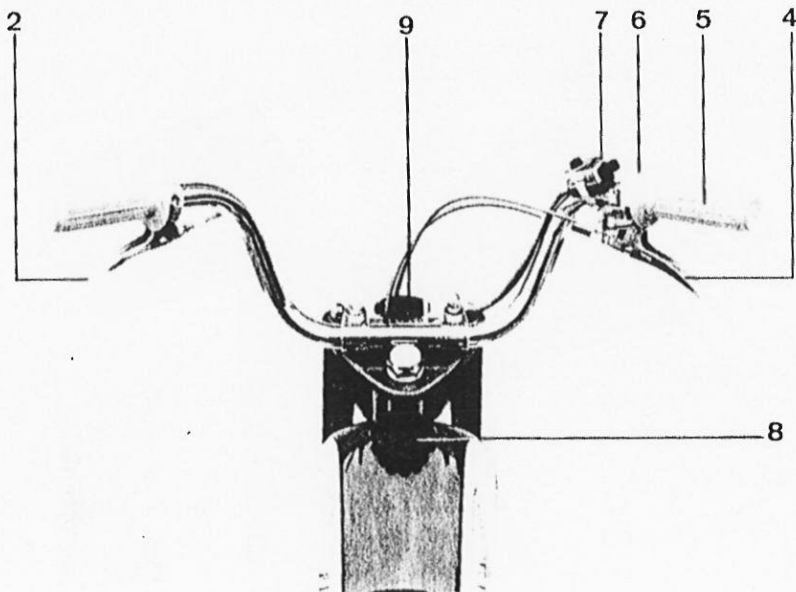

Fig. 1
Hand operated : - Handlebar Arrangement ; Fig.1 :
- f) apply choke by pushing control (6) Fig.1 to the left, keeping the throttle closed
To stop the engine, press the ignition cutout switch on the front of the combination switch (7) Fig.1. When leaving your machine standing for any length of time close the fuel tap and, for security, use the steering lock.